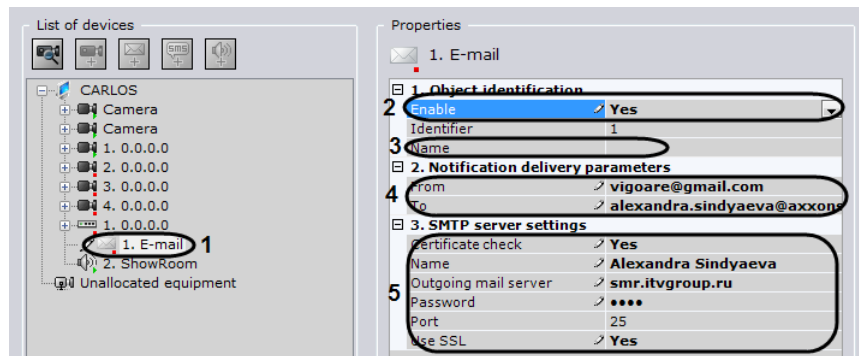

Fig. 6.4—34 Configuring an E-mail object
1. In the list of devices, highlight the **E-mail** object which needs to be configured (Fig. 6.4—34, 1).
2. Activate the **E-mail** object (see Fig. 6.4—34, 2) by selecting **Yes** in the **Enable** list.
3. In the **Name** field (see Fig. 6.4—34, 3), enter the desired name for the **E-mail** object.
4. In the **Notification delivery parameters** field (see Fig. 6.4—34, 4), set the delivery parameters for the E-mail message: